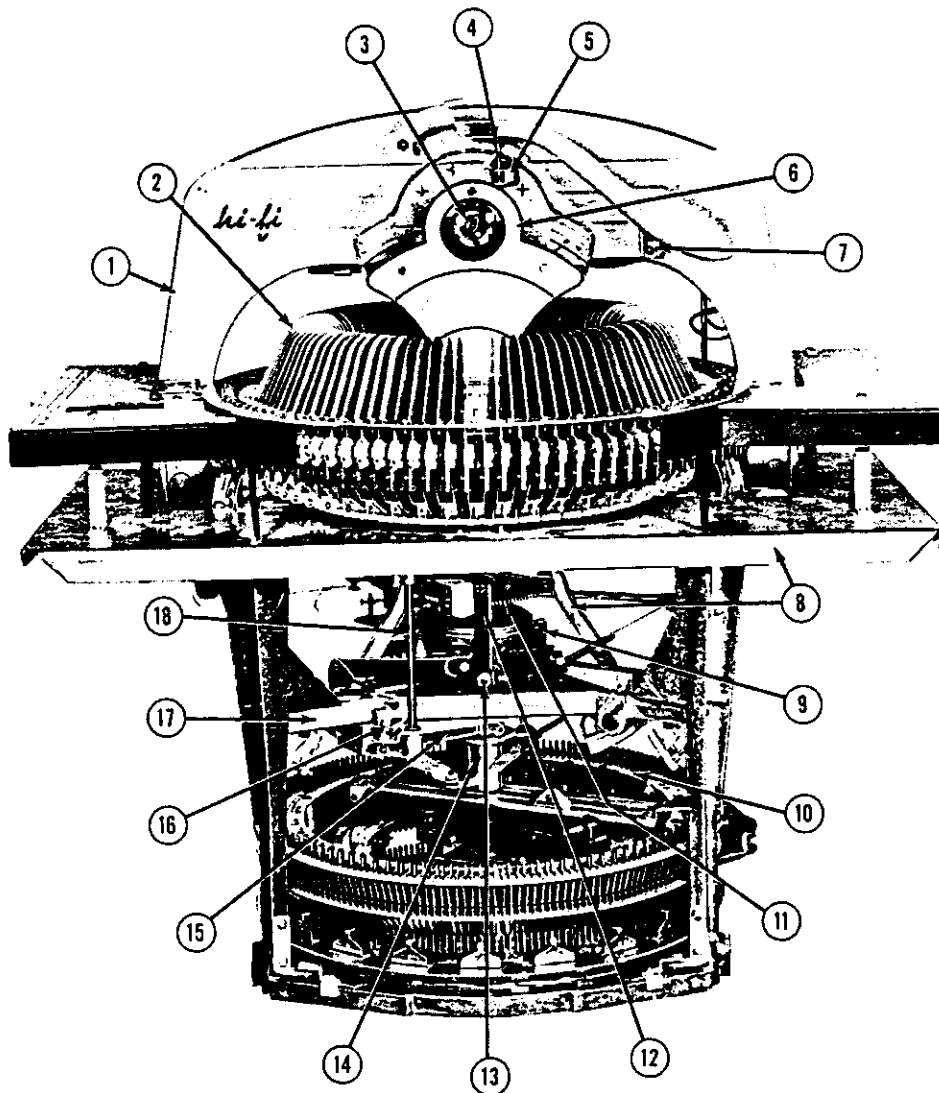
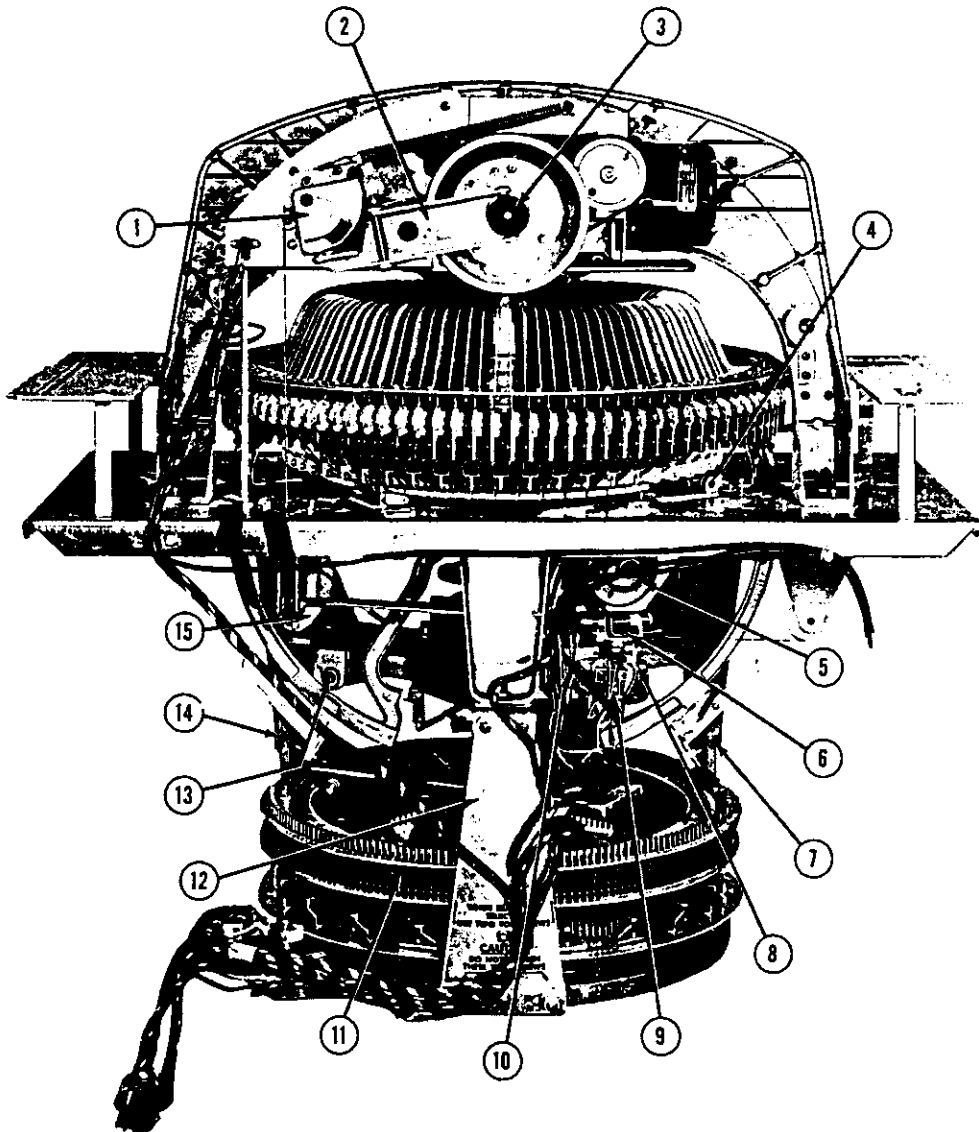
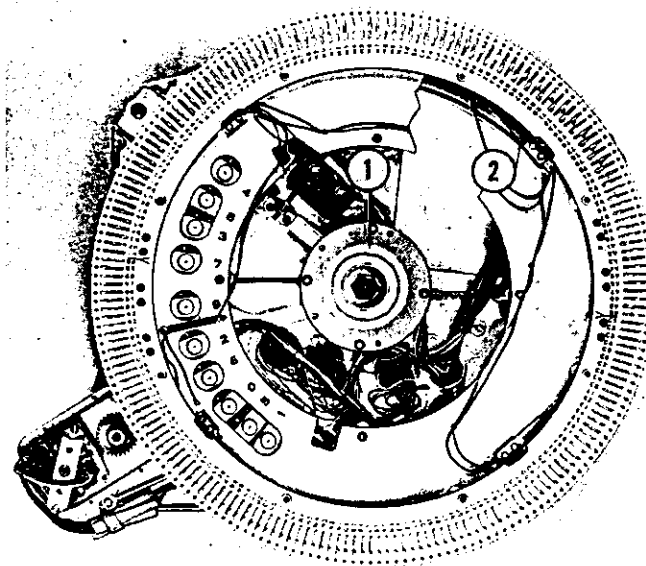
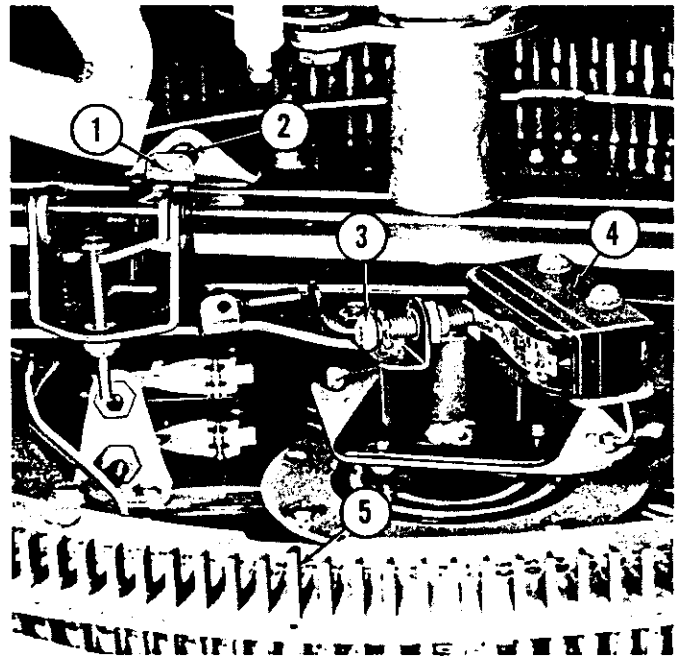

Fig. 54. MODEL 2100 RECORD CHANGER (FRONT VIEW)
Fig. 55. MODEL 2100 RECORD CHANGER (REAR VIEW)
Fig. 56. ELECTRIC SELECTOR ASSEMBLY (SOLENOID ARRANGEMENT)
Fig. 66. CARRIAGE SWITCH ADJUSTMENTS
The Wurlitzer Model 2100 record changer (Fig. 54) is scientifically designed and fabricated. It is calculated to function without interruption throughout its service life. All components and systems have been carefully factory-adjusted and tested, thus minimizing the possibility of breakdown or malfunctioning. The record changer accommodates 100 seven inch, 45 R.P.M. records, which provide a choice of 200 selections. Outstanding features of the Model 2100
Five major assemblies, or groups of assemblies make up the record changer, Figure 54. The top support casting assembly (Item 1) includes the turntable assembly, the tone arm assembly, and the turntable motor and bracket assembly. Item 2, the record carrier assembly. Item 8, the chassis mounting plate and record lift arm assembly. Item 17, the chassis frame assembly, includes the main shaft assembly, Item 12 and the electric selector assembly, Item 10. Each of these assemblies is described separately in the following paragraphs.
The sub assemblies and components of the top support casting assembly (See Figs. 54 and 55) are as follows:
A bracket on the right front side of the top support casting mounts the tone arm assembly (Item 7, Fig. 54). The complete tone arm assembly consists of the tone arm casting, mounting casting and
(3) Tone Arm Release Lever and Bracket Assembly. (Fig. 54)
The tone arm release lever, (Item 5, Fig. 54) is mounted behind the tone arm on the upper right side of the support casting (Fig. 54). The function of the release lever is to guide the tone arm needle to the feed-in groove of the record to be played. The tone arm release and feed-in lever function to guide the tone arm through the tone arm feed-in guide bracket. The feed-in adjusting screw is located in one end of the tone arm release bracket and functions to engage the needle with the feed-in groove of the record.
The record guide assembly (Item 6, Fig. 54) is attached to the lower center of the support casting by a shaft through a pivot casting. This method of mounting allows the complete assembly to pivot and operate a safety switch if a broken or warped record becomes jammed against it. The record track, in turn, is pivoted laterally at the bottom of the record guide assembly and functions as a stop for a record from either side of the record carrier. The safety switch is operated by a bracket and stop nut assembly attached to the record guide assembly. The record guide assembly is spring-loaded to assure return to its normal position when obstruction has been removed.
(5) Turntable Motor and Mounting Bracket Assembly. (Fig. 55)
The turntable motor and mounting bracket assembly is mounted on the left rear of the top support casting assembly (Fig. 55). The motor operates on 115 volt, 60 cycle current. Power is supplied to the turntable motor when over-ride relay has been actuated by over-ride switch action. See Page 31, Phase 15.
(6) Turntable Shaft and Record Clamp Assembly. (Figs. 54 and 55)
the other. These two shafts are assembled inside a removable sleeve, which in turn, is mounted in the top support casting. The inner, sliding shaft operates the record clamp mechanism. The outer shaft operates the turntable and clamp assembly. A drive pulley and fly wheel assembly is mounted on the rear end of the outer shaft. The record clamp plate (Item 3, Fig. 55) is mounted on the rear end of the inner, record clamp shaft.
The record clamp, arm and roller assembly (Item 2, Fig. 55) is mounted on the right of the back plate of the top support casting. The record clamp arm is pivoted on its mounting bracket to transfer action of the record clamp cam to the sliding shaft (Item 3) which operates the record clamps. The record clamp cam, (Item 1, Fig. 55) in turn, is actuated by the pulley and cable which is connected to the record clamp lever, operated by the main cam.
A plastic guide pulley and bracket assembly is mounted at the rear left side of the support casting (Fig. 55) to guide the cable linked to the tone arm brush assembly and the actuating arm of the transfer switch.
b. Record Carrier Assembly. (Item 2, Fig. 54)
c. Chassis Mounting Plate and Record Lift Arm Assembly. (Item 8, Fig. 54)
The chassis mounting plate is the supporting member of the record changer. The following items are considered integral parts of the chassis mounting plate; reinforcement plates, spring cups, hold-down clamps, and lift arm spring brackets. Attached to the mounting plate to complete the assembly are three carrier rollers, the tone arm brush cable guide pulley and bracket assembly (See Fig. 55).
Although the record lift arm assembly may be considered a sub assembly, it is included in the chassis mounting plate and lift arm assembly. The record lift arms are attached to the chassis mounting plate by a bracket and three screws. The chassis mounting plate supports the top support casting, the record changer motor and the chassis frame assembly. The chassis frame assembly is hung from the chassis mounting plate by three chassis frame supports shown in Figure 55. The loading levers and switch are mounted at the front of the chassis mounting plate. The loading lever and linkage turns off power to the changer motor and releases the selector crank from engagement with any selector pins which may be released. The record carrier is thus free to be rotated for changing of records, even though selector latch pins are released.
The chassis frame assembly includes the chassis frame casting, the selector shaft assembly, the three chassis frame supports, and the casting for the electric selector. This assembly serves as a mount for the main cam and shaft assembly, the record lift arm link and lever assembly, the record clamp and tone arm lever, the shaft and cancel arm assembly, the mute and play switch actuator arm, the transfer switch actuator arm assembly, the transfer switch, and the mute and play switch (See Figs. 54 and 55).
(1) Link and Lever Assembly. (Item 12, Fig. 54)
(2) Record Clamp and Tone Arm Lever. (Item 15, Fig. 55)
(3) Shaft and Cancel Arm. (Item 13, Fig. 55)
These two actuator arms (Items 6 and 8, Fig. 55) are mounted on and pivot on the same shaft on the back of the chassis frame casting. This function is to operate the transfer switch and tone arm brush, and the mute and play switch.
The transfer switch, (Item 10, Fig. 55) functions to change operation of the record changer from record handling operation to searching operation. The mute and play switch (Item 9, Fig. 55) functions to stop the record handling operation at the correct position for playing of the selected record. Its muting function is to reduce amplifier out-put until the needle has reached the playing groove of the record.
The selector shaft assembly includes the arm and hub assembly on which the record carrier is mounted, the selector drive clutch and hub, the drive clutch spring and felt washers, gear and ratchet wheel assembly, (Item 11, Fig. 54) main cam and bushing assembly, thrust bearing and spacers, and the main selector shaft assembly.
The gear and ratchet wheel assembly, (Item 11, Fig. 54) is bearing mounted on the main selector shaft directly above and close to the main cam. As stated above, the selector shaft is clutch driven by the hub of this gear only when it turns in a clockwise direction. When the changer motor (Item 5, Fig. 55)
- (8) Cancel Mechanism. (Fig. 54)
(9) Release Lever and Shaft Assembly. (Fig. 55)
The release lever and shaft assembly, (Item 18, Fig. 54) consists of a mounting bracket, the operating lever, a shaft and the actuating arm. It is used to turn the "sleeve and bushing assembly" (Item 14, Fig. 54) and allow the selector crank to raise above its searching position. The actuator arm also engages the loading switch (Item 16, Fig. 54) to intercept the changer motor circuit. In this way the record carrier may be turned freely for loading records and the record changer may not be started until the release lever has been returned to the play position. The selector crank is accurately synchronized with the record carrier. Its first function is to actuate the carriage switch when the tip of the crank is interrupted, in its searching cycle, by a released selector latch pin.
When the selector crank is interrupted by a released selector latch pin, the carriage switch actuates the reversing relay and causes the searching action to stop and the record handling action to start. At this time the clutch spring exerts some counter-clockwise influence on the selector shaft, also the loading influence of the selector crank "kick-off" spring tends to turn the selector shaft counter-clockwise. The record carrier will therefore back up slightly and engage one of the back stop pawls (Item 4, Fig. 55) to properly index the record carrier for record handling.
f. Electric Selector Assembly. (Figs. 55 and 56)